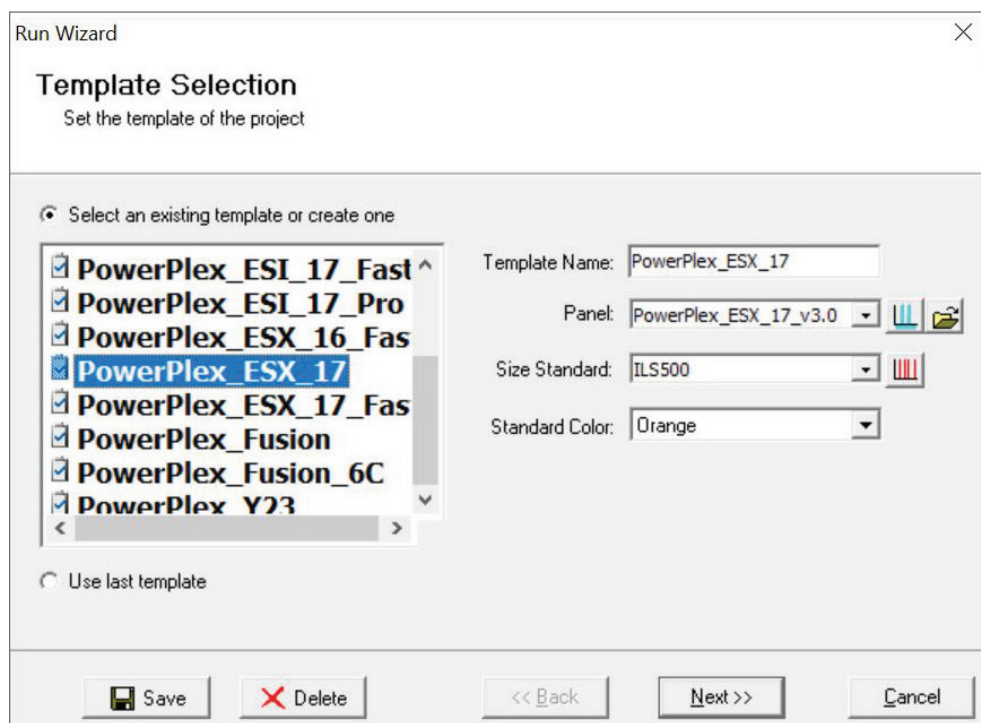

Figure 28. The 'Template Selection' window.
- Click on **Run** in the Magic Wizard or click the **Run Project** icon (green arrow) in the toolbar. The 'Template Selection' screen will appear (Figure 28). Select the PowerPlex_ESX_17 template and the settings shown in Figure 28. Verify the panel that you created in Step 6 is selected in the panel drop-down field. The Size Standard must be ILS500 and the Standard Color must be Orange. Select **Next**.